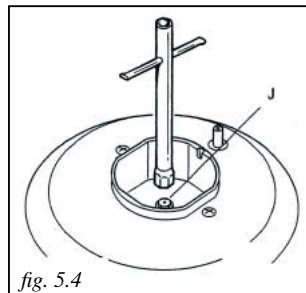

fig. 5.4
- Using a wrench substitute the nozzle injectors “J” (fig: 5.4) with those most suitable for the kind of gas for which it is to be used.